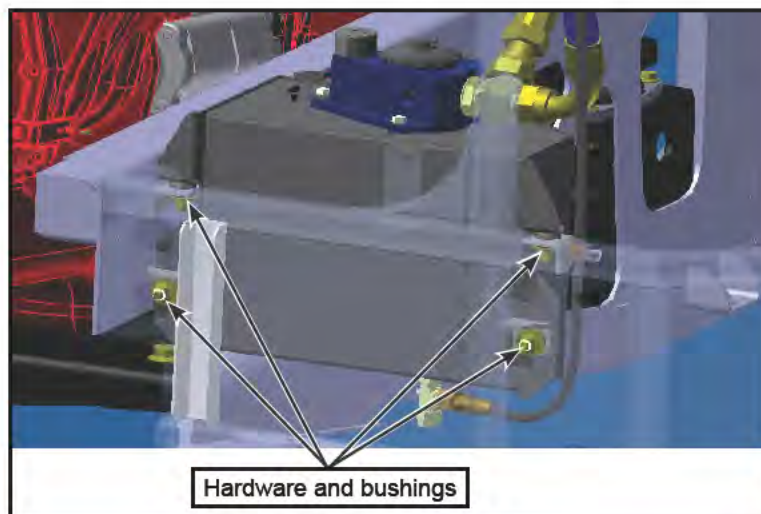

Figure 11 - Remove Parts
- 1.10. Remove hardware and bushings holding the tank to the structure. Discard bushings and nuts only. See Figure 11.